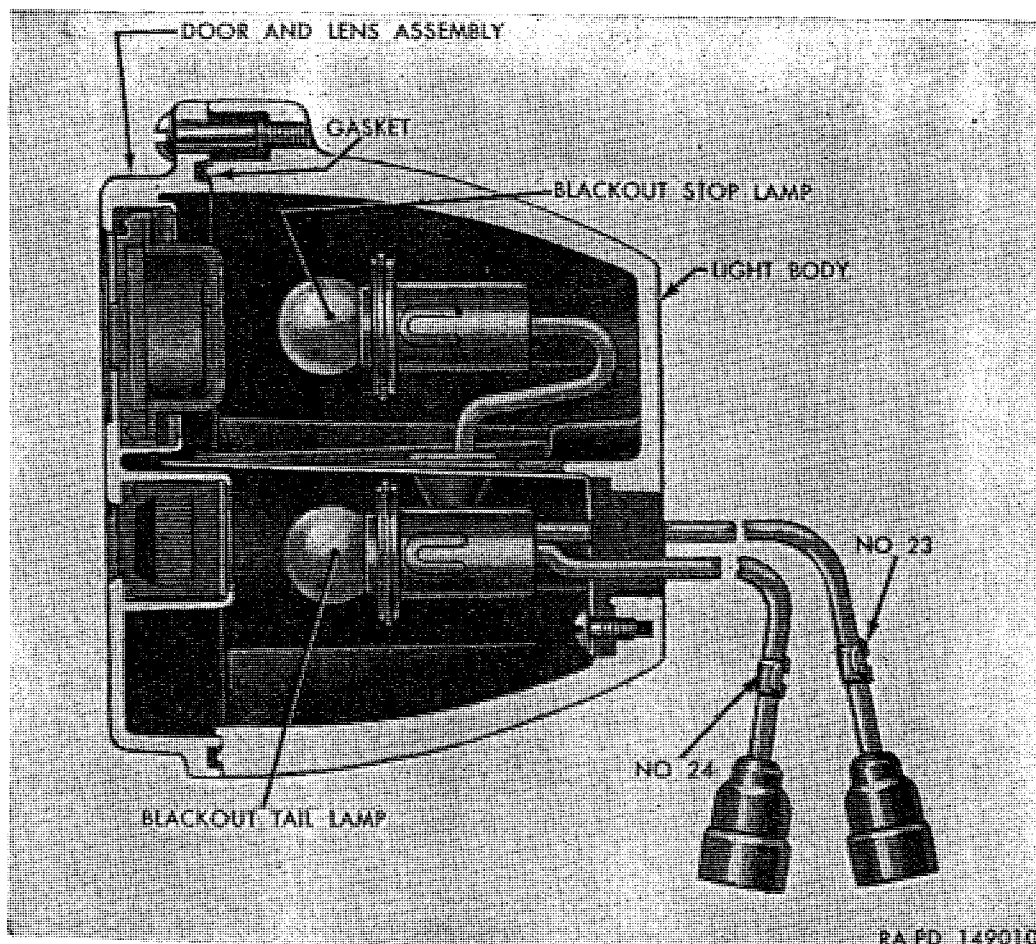

Figure 166. Sectional view of blackout stop and taillight.
a. *Door and Lamp Replacement* (fig. 166). Door and lamp replacement procedure is same as described for front marker lights (par. 163a).
- (1) *Removal.* Disengage light cables from clip on rear of light mounting bracket. Disconnect light cables from harness cables at bayonet-type connectors. Remove two cap screws and lockwashers attaching light assembly to bracket. Note that clips are secured under cap screw heads.
- (2) *Installation.* Insert cables through hole in brackets, position light assembly against bracket, and attach with two $\frac{3}{8}$ -16 x $\frac{5}{8}$ cap screws and $\frac{3}{8}$ -inch external-teeth lockwashers. Make sure clips are installed under cap screw heads. Connect light cables to harness cables, making sure cable numbers are matched. There are three light cables on left light and two on right light.